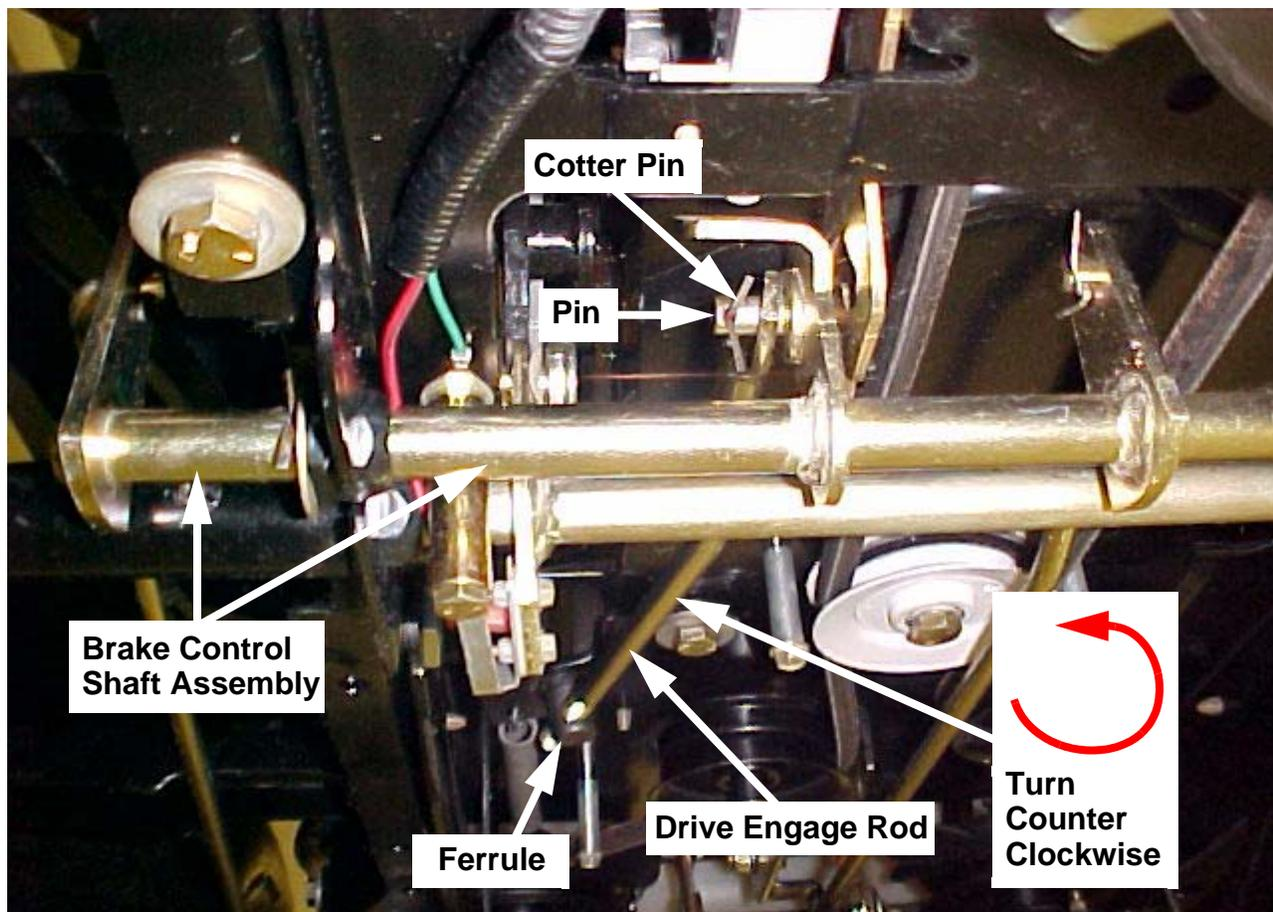

FIGURE 4
14. Remove the Cotter Pin which secures the Drive Engage Rod to the Brake Control Shaft Assembly. See Figure 4.
15. Remove the Drive Engage Rod from the pin of the Brake Control Shaft Assembly. See Figure 4.